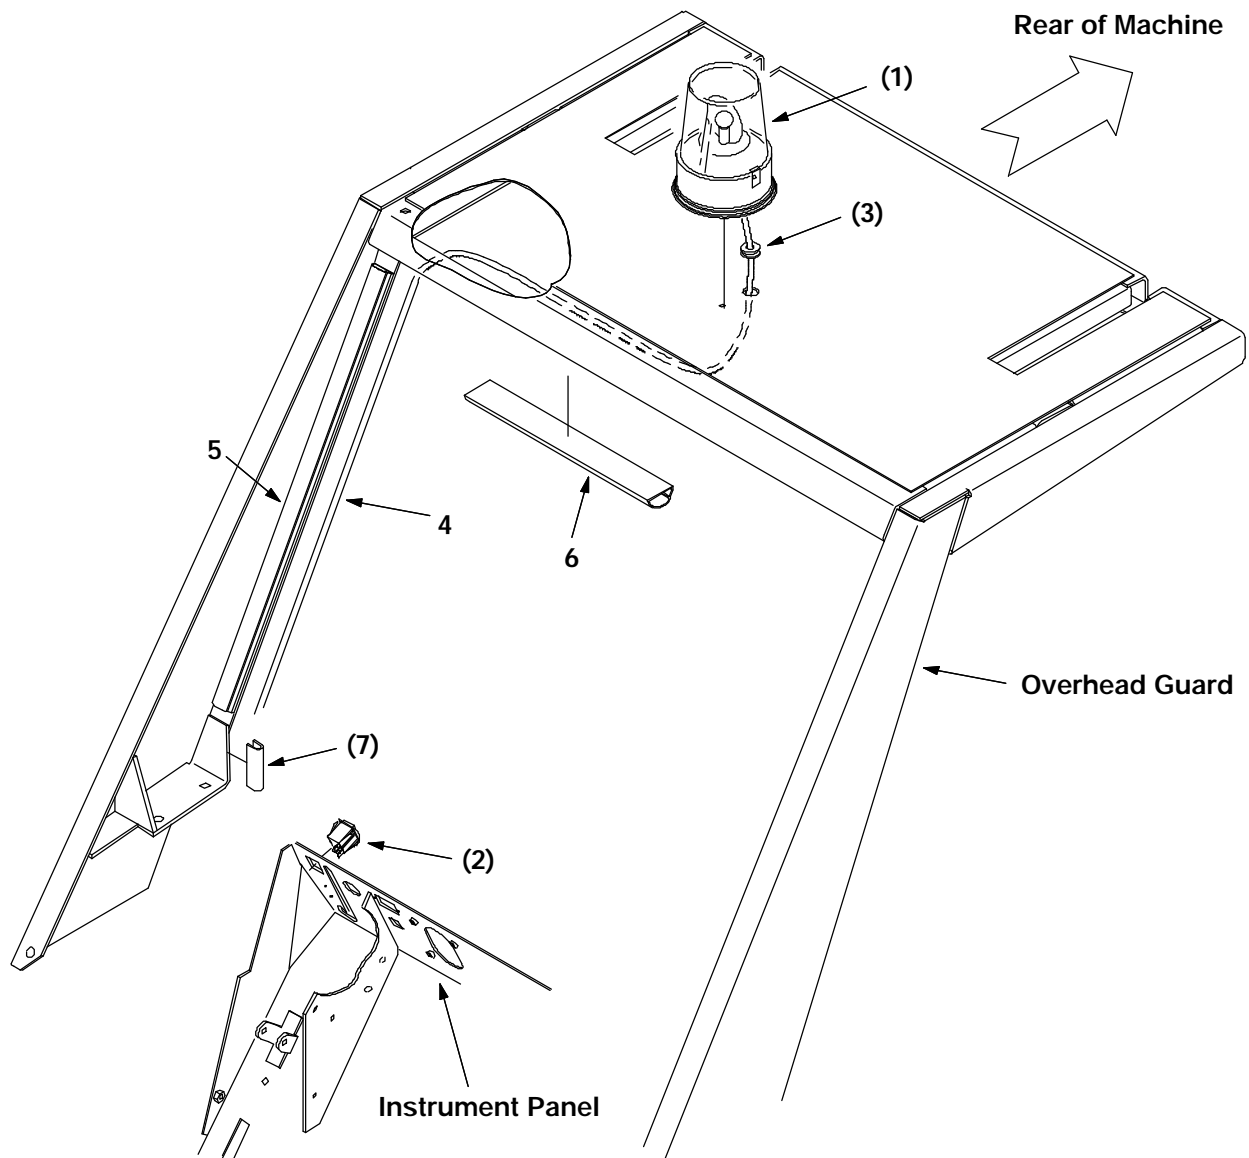

FIG. 2 - 12V Revolving Light and Switch Assembly
6. Install vinyl duct pieces (5) and (6) and trim molding pieces (7) according to FIG. 2.
7. Route wire harness (3) through vinyl duct pieces (5) and (6) and trim molding pieces (7). (Refer to FIG.2).
8. Install rubber grommet (4) in the larger hole drilled in the overhead guard in step 2. (Refer to FIG.2).
9. Install revolving light (1) and route wire harness (3) through rubber grommet. (Refer to FIG.2).
10. Plug wire harness wires (75B/ORA and 13CA/BLK) into revolving light (Refer to FIG.2).
12. Install switch and connect wire harness (3) (wires 75B/ORA and 13CA/BLK) to switch plug (wires 13A/BLK, 75/ORA, and 75A/ORA). (Refer to FIG.2).